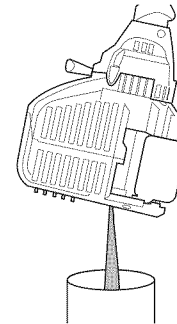

Fig. 20
3. Tip the unit vertically to pour the oil out of the oil fill hole and into a container (Fig. 20). Allow ample time for complete drainage.